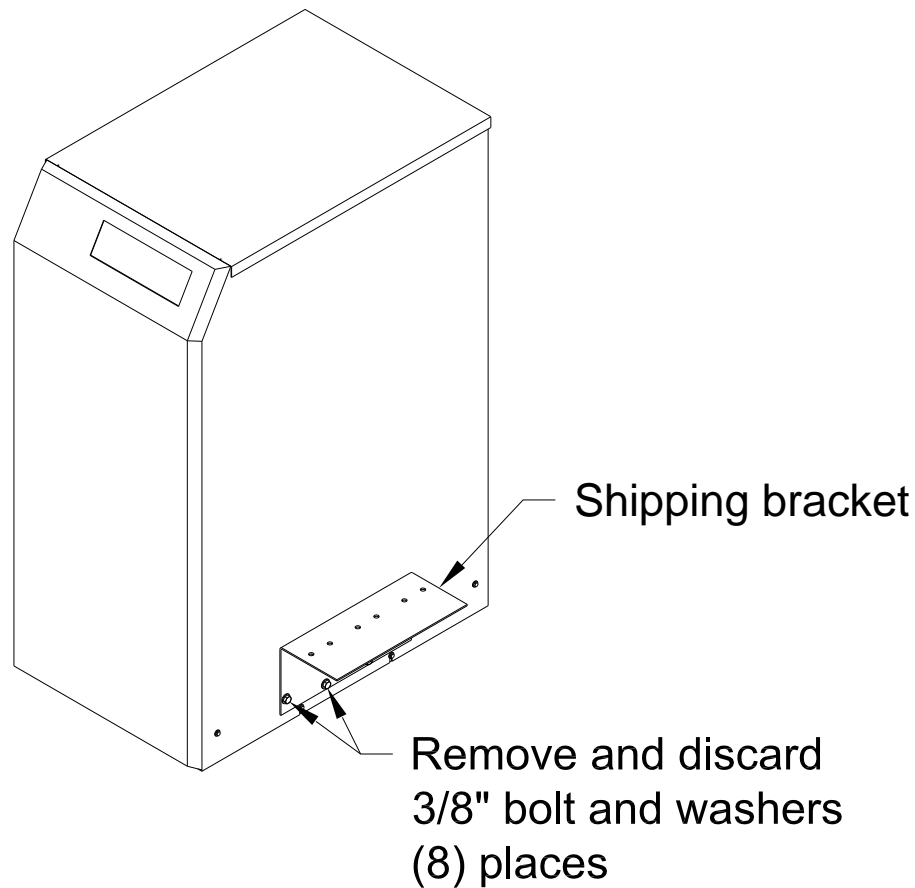

Figure 3 - Shipping Bracket
8. Remove the (8) 3/8" bolts mounting the shipping brackets to the UPS and remove the brackets (see figure 3).